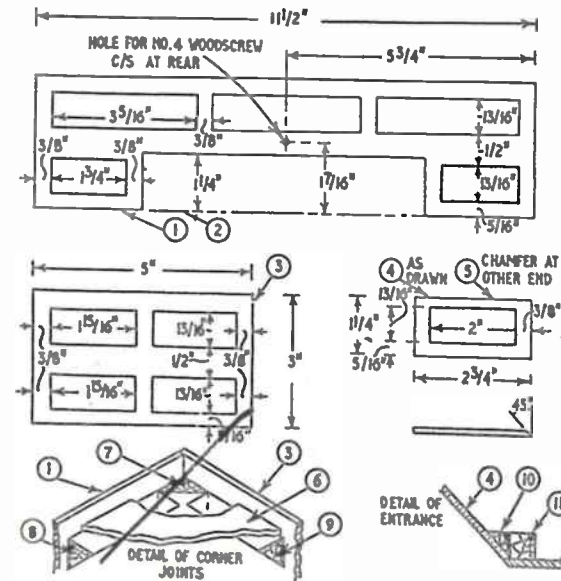

Fig. 1 (above) - Construction of the building
of hardboard 1 1/2 ins. by 3 ins., while the sides (3) are 5 ins. by 3 ins. in size. The angled entrance (4 and 5) is made from two further pieces of hardboard, each measuring 2 1/2 ins. by 1 1/2 ins., and the roof is 1 1/2 ins. by 4 1/2 ins. Fig. 1 gives the dimensions of all windows, which may